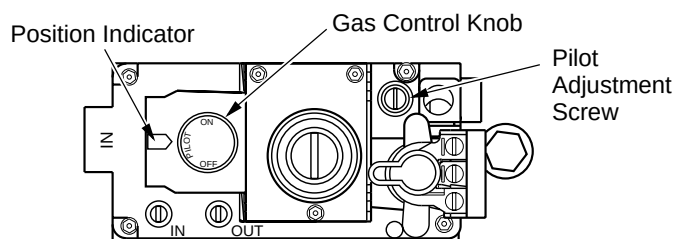

Figure 36 - Control Knob in the PILOT position
6. Turn gas control knob clockwise  to the OFF position (see Figure 36).
7. Wait five (5) minutes to clear out any gas. Then smell for gas, including near the floor. If you smell gas, **STOP!** Follow "B" in the safety information, above. If you don't smell gas, go to the next step.
9. Push in the knob all the way and hold in. Immediately light the pilot manually. Continue to hold the control knob in for about (1) minute after the pilot is lit. Release knob and it will pop back up. Pilot should remain lit. If it goes out, repeat steps 5 through 9.
- Turn the adjustment screw marked pilot clockwise to decrease or counterclockwise to increase the flame to proper size (see Figure 36, page 16). Do not remove the adjustment screw.